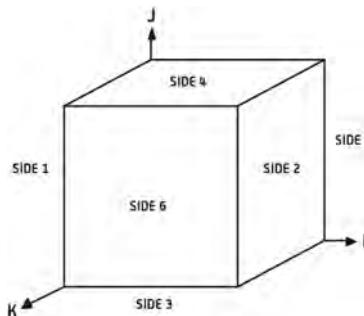

Figure 31
1. Select the side of the model to which you wish to apply the symmetry boundary, using the "side" subcommand. PZFlex defines the sides of the model as shown in Fig. 31, where the box defines the entire grid geometry. Selecting Side 2 selects all the nodes on the maximum i-value of the geometry.